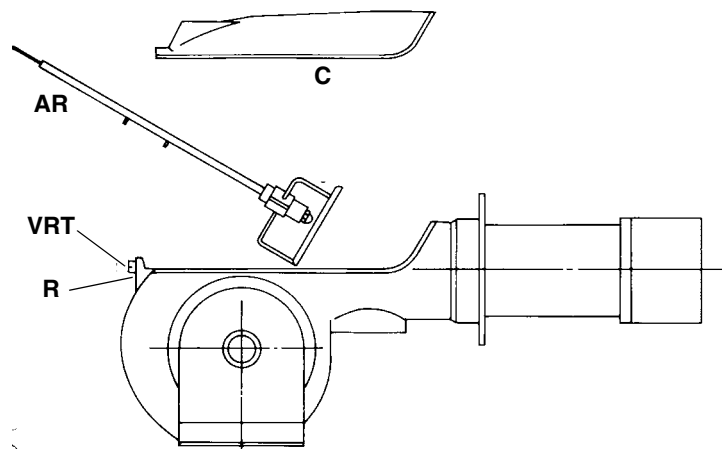

Fig. 19
- remove the whole assembly as shown in Fig. 19.